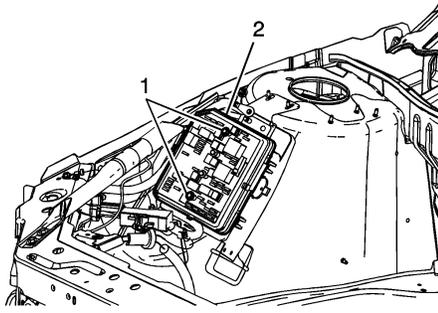

Fig. 4 Accessory wiring junction block removal
12. Remove retaining fasteners (1) from electrical center board (2), **Fig. 4**.
2. Install accessory wiring junction block, **Fig. 4**. **Torque** electrical center board fasteners to 62 inch lbs.